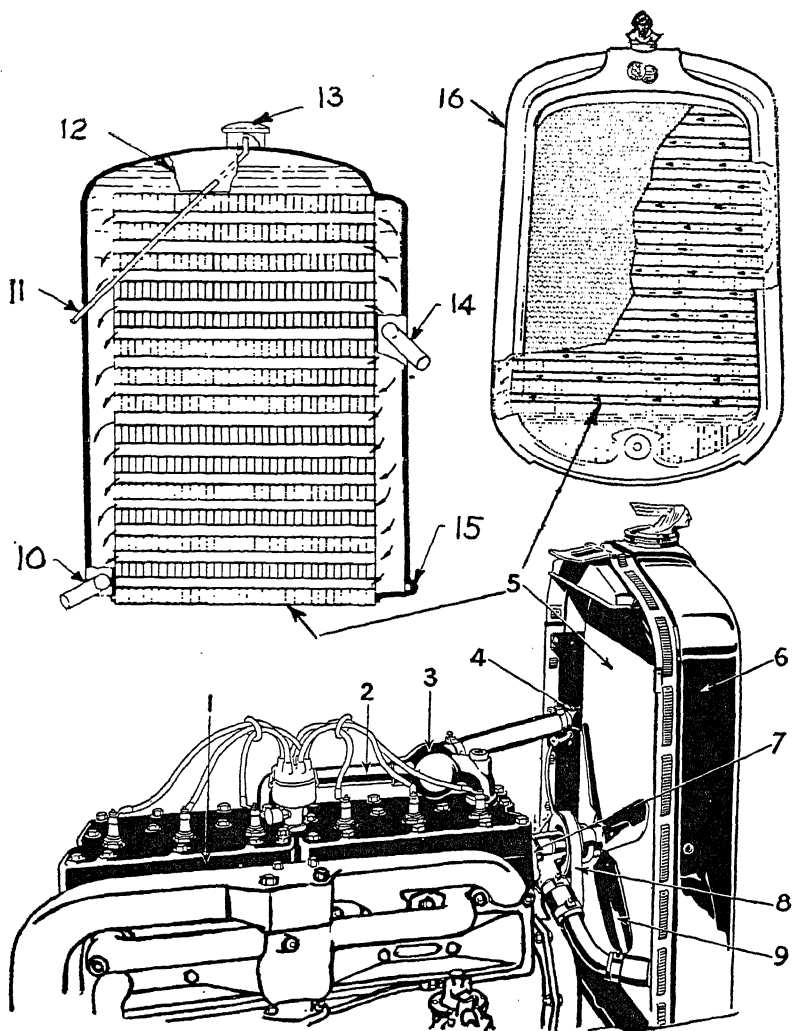

Fig. 11. Pontiac Cooling System with Cross-Flow Radiator
*Cross-Flow Radiator.* In practically all cases the radiator makes use of the vertical tube rather than the horizontal tube. The Pontiac cross-flow radiators, used up to 1935, made use of a novel principle, illustrated in Fig. 11. Water which has been heated within the jackets of the engine flows off through the tube 4 in the lower figure. It enters the tube or a similar one at 14 in the upper left-hand illustration. The water which enters at this point comes in contact with other water which is above it. As the water within the radiator is cooled, it does not pass downward but instead is drawn across through the horizontal tubes, as shown in these several figures. While it is flowing across the radiator, it is being cooled and it will then settle in the side tank and be withdrawn from the side tank at 10. This type of radiator construction does away with a certain amount of loss of water, owing to vaporization. In all cases of water-cooled engine, no matter what the temperature, there is a certain amount of vapor within the upper portion of the upper radiator tank. This vapor is free to escape through the vent tube.